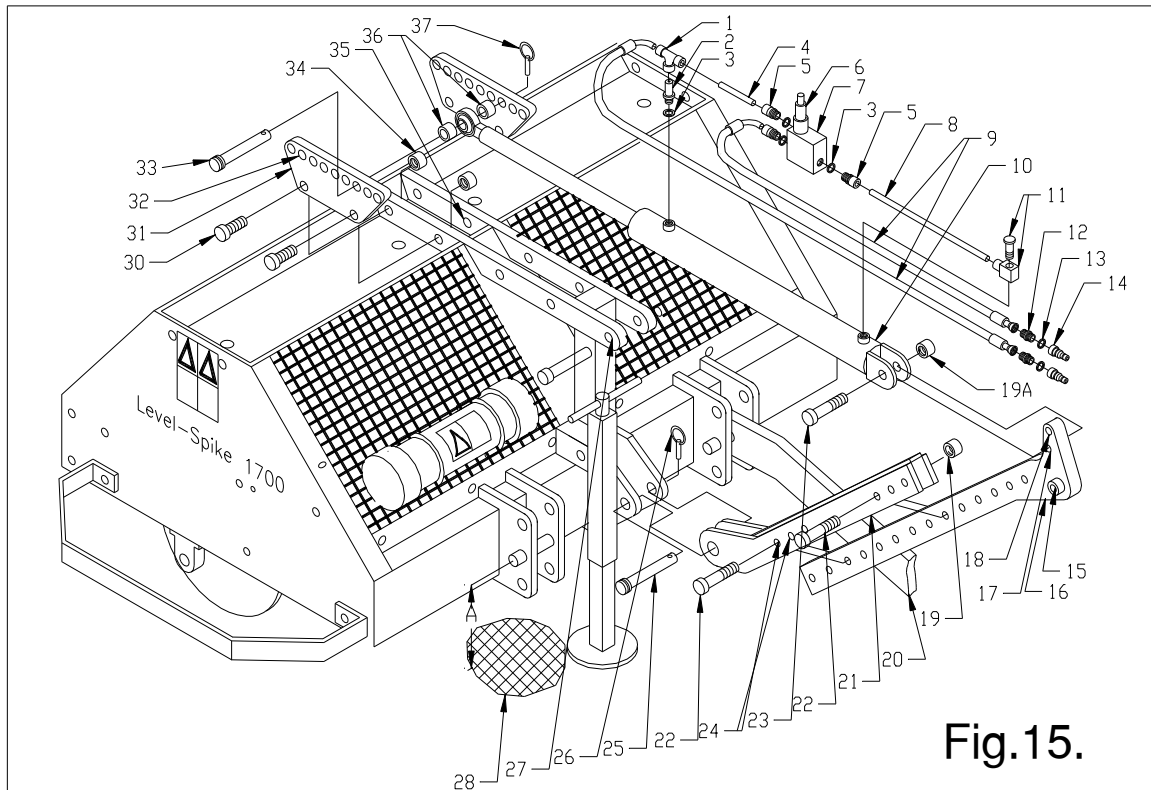

Fig.15.
11.6 WEIGHT TRANSFER KIT, See fig.15.
Assemble the components to the hydraulic cylinder, see Fig. 15. The flow reducer 2 is screwed in the hydraulic cylinder 10. Use copper washer 3. Fit all three connectors 5 to the pressure relieve valve 7, using washers 3. Slide the tubes 4/8 fully into the connectors 5, T connector 1 and screw able connector 11. Mount everything onto the cylinder ports. When everything fits, tighten all connectors, keeping the valve 7 vertical up. Next hoses 9 can be fitted to the connectors 1 and 5. At the other end of the hose a threaded nipple 12 fits, on which a quick Fit connector 14 can be mounted, using a copper washer 13 to seal. When everything is tight, the hydraulic cylinder assembly is ready to use.
Fit the symmetric plates 31 with bolts 30 and nuts 34 to the standard holes 35 of the machine, as is shown in fig. 15.